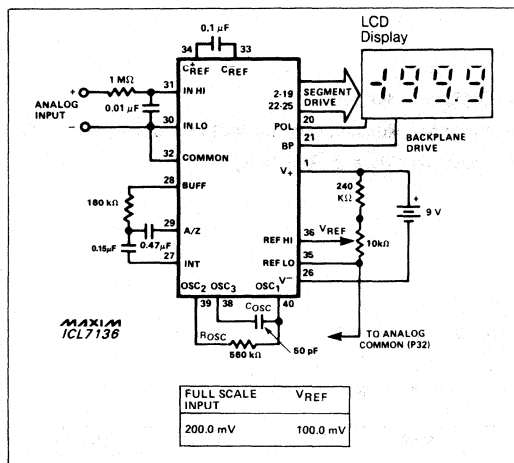

Figure 1. Maxim ICL7136 Typical Operating Circuit
**Note 3:** Unless otherwise noted, specifications apply at  $T_A = 25^\circ C$ ,  $f_{LOCK} = 16kHz$  and are tested in the circuit of Figure 1.
( $V^+ = 9V$ ;  $T_A = 25^\circ C$ ;  $f_{CLOCK} = 16kHz$ ; test circuit - Figure 1; unless noted)
**Note 8:** Test condition is  $V_{IN}$  applied between pins IN-HI and IN-LO through a 1M $\Omega$  series resistor as shown in Figure 1.
**Note 12:** 1M $\Omega$  resistor is removed from circuits in Figure 1.